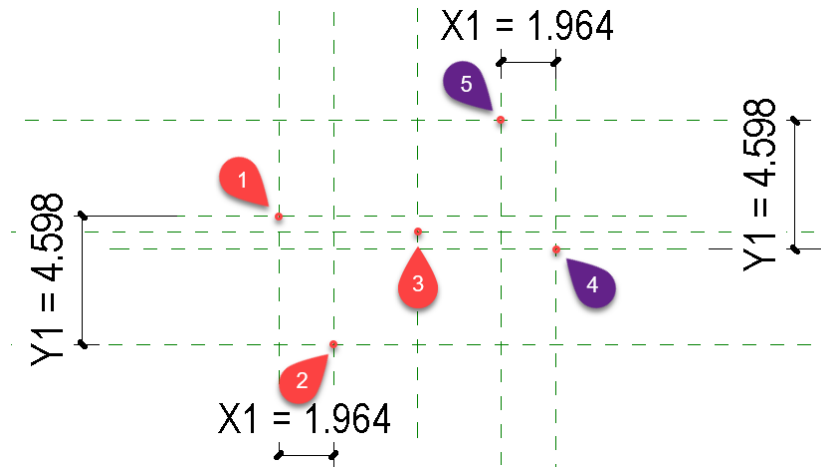

Figure 36—Intersections to snap arc lines to
- ⇒ Snap the center of the arc to the intersection of the Arc Center Left Hor and Arc Center Left Ver reference planes (see point 1 in Figure 36).
7. Snap the first endpoint to the intersection of the X Mid and Y Mid reference planes and the other to the intersection at Center (Front/Back) and Center (Left/Right) (see points 2 and 3 in Figure 36).
9. Repeat the process by drawing a second arc with center at point the intersection of the Arc Center Right Hor and Arc Center Right Ver reference planes (point 4 in Figure 36 above) and the endpoints at locations at the intersection of Y Max and X Max and Center (Left/Right) and Center (Front/Back) (points 5 and 3 in Figure 36 above).